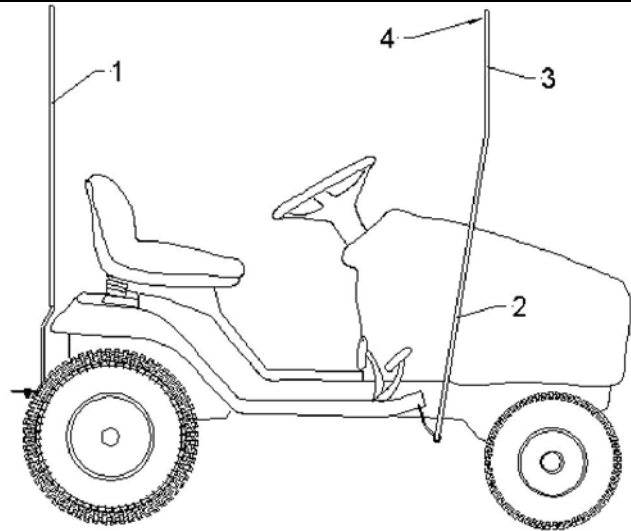

Figure 4
Install the front posts (fig.4, item 2) the bent part towards the front and the back posts (item 1) as shown.